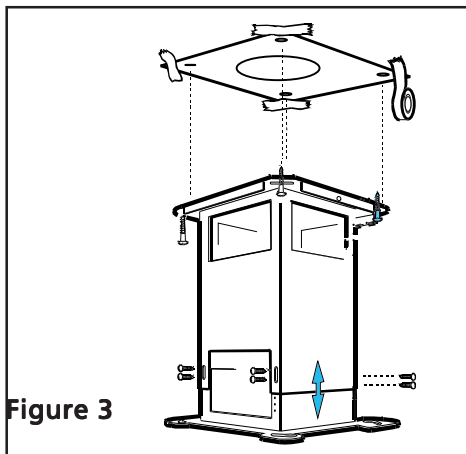

Figure 3
Make sure to affix the added lumber firmly and level. Consult a professional if you have difficulties or your installation is unique. Consult template and Figures 3, 4, 5.
14. **To install Chimney Structure** to ceiling, use a 10mm or adjustable wrench or flat head screwdriver. Drill pilot holes into ceiling. Attach mounting structure to joists with the 4 lag screws provided. (Keep 1/2" conduit inside structure.) See Figure 3.